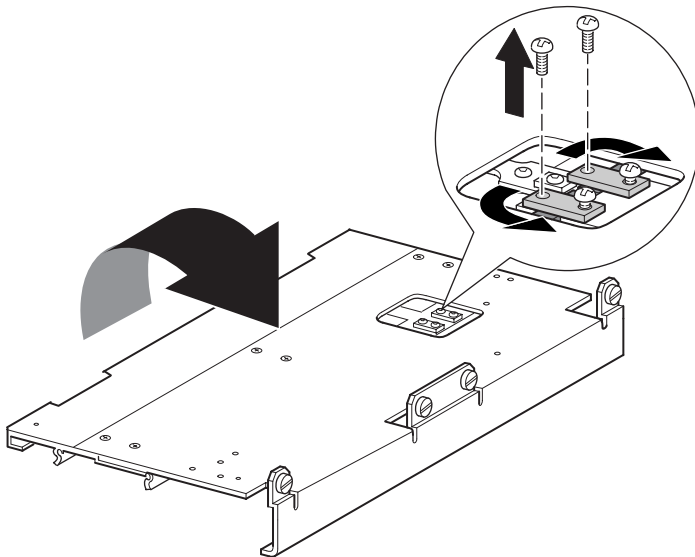

Figure 15 Belt block bracket access cutout
4. Turn the PTM over to access to the belt block bracket access cutout (see Figure 15 on page 25).
5. Remove one screw from each of the two belt block brackets. Loosen the other screw and move each belt block bracket to the side to gain access to the drive belt (see Figure 15 on page 25).